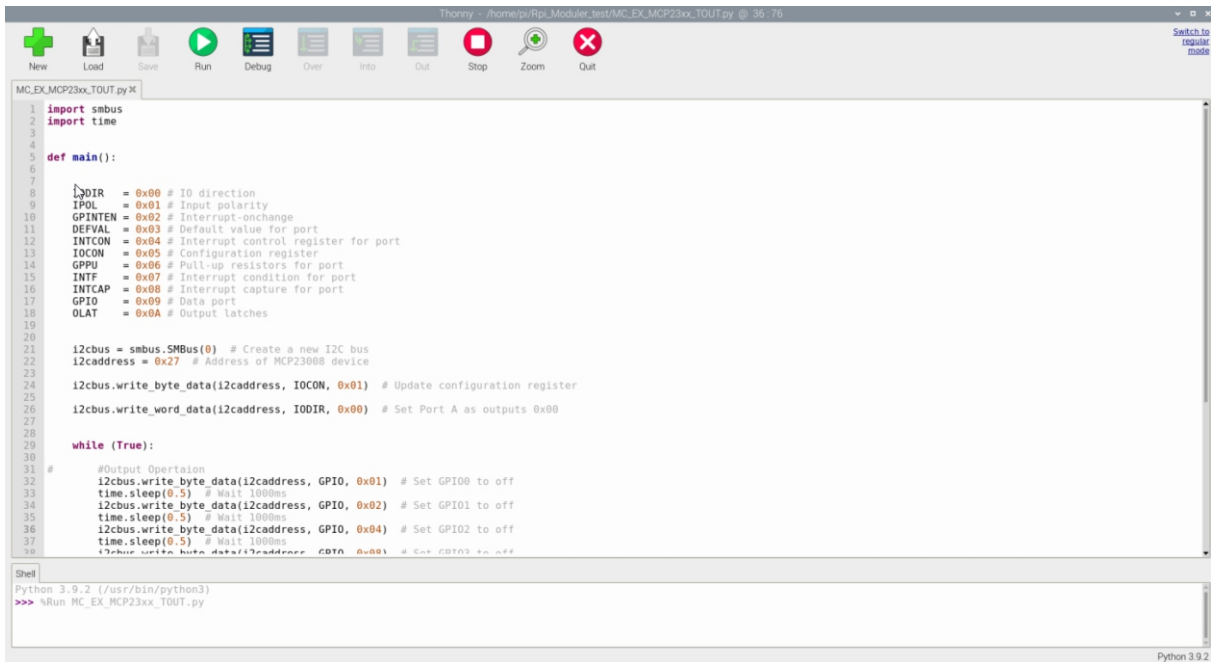

Figure 4: Transistor Output example code run on Thonny Python IDE.
9. The python program will open on default Thonny Python IDE. Click RUN for start the program shown in Figure 4.